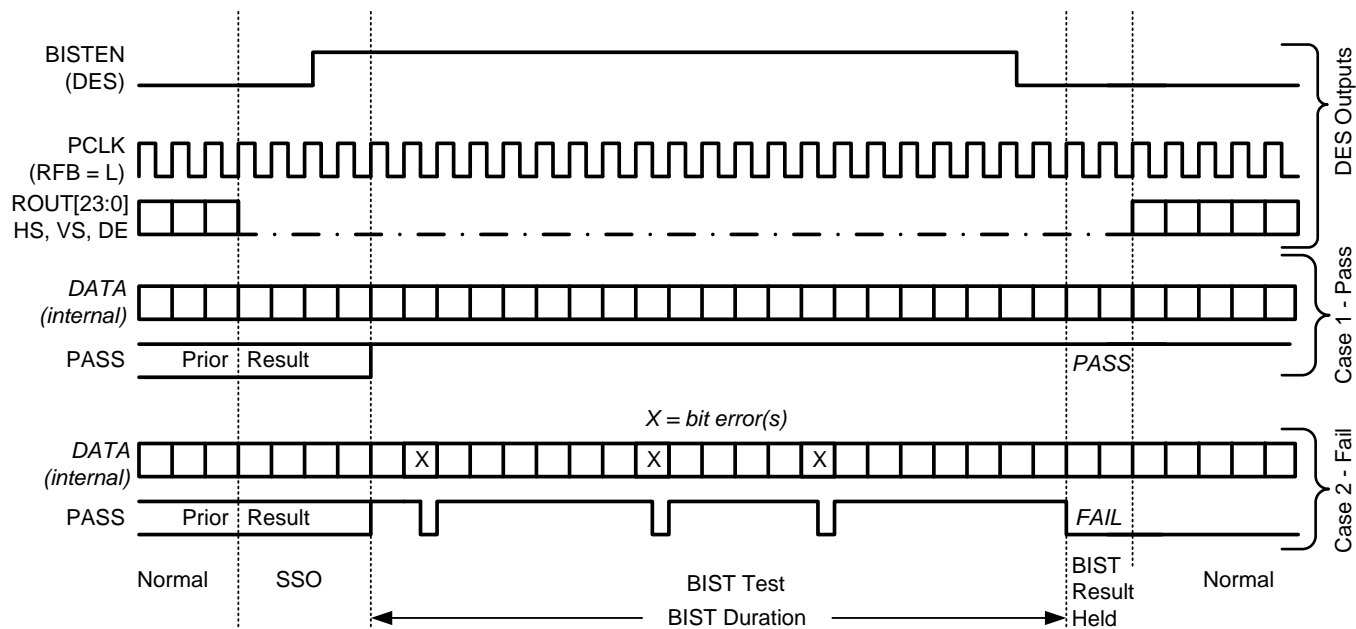

Figure 18. Bist Waveforms
4. The Link returns to normal operation after the deserializer BISTEN pin is low. Figure 18 shows the waveform diagram of a typical BIST test for two cases. Case 1 is error free, and Case 2 shows one with multiple errors. In most cases it is difficult to generate errors due to the robustness of the link (differential data transmission etc.), thus they may be introduced by greatly extending the cable length, faulting the interconnect, reducing signal condition enhancements (Rx Equalization).